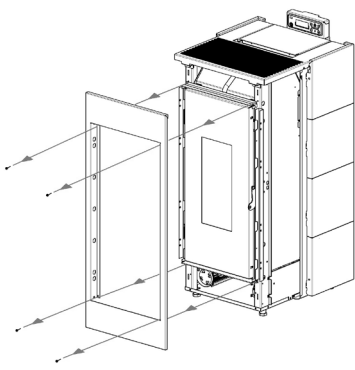

Fig. 38 - Remove the front panel
- Remove the front panel: loosen the 4 screws (see **Fig. 38**).